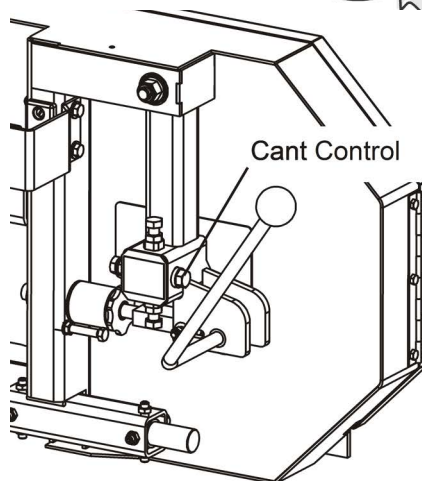

FIG. 4-7
6. Use the cant control to adjust where the blade travels on the blade wheels. See FIG. 4-7.